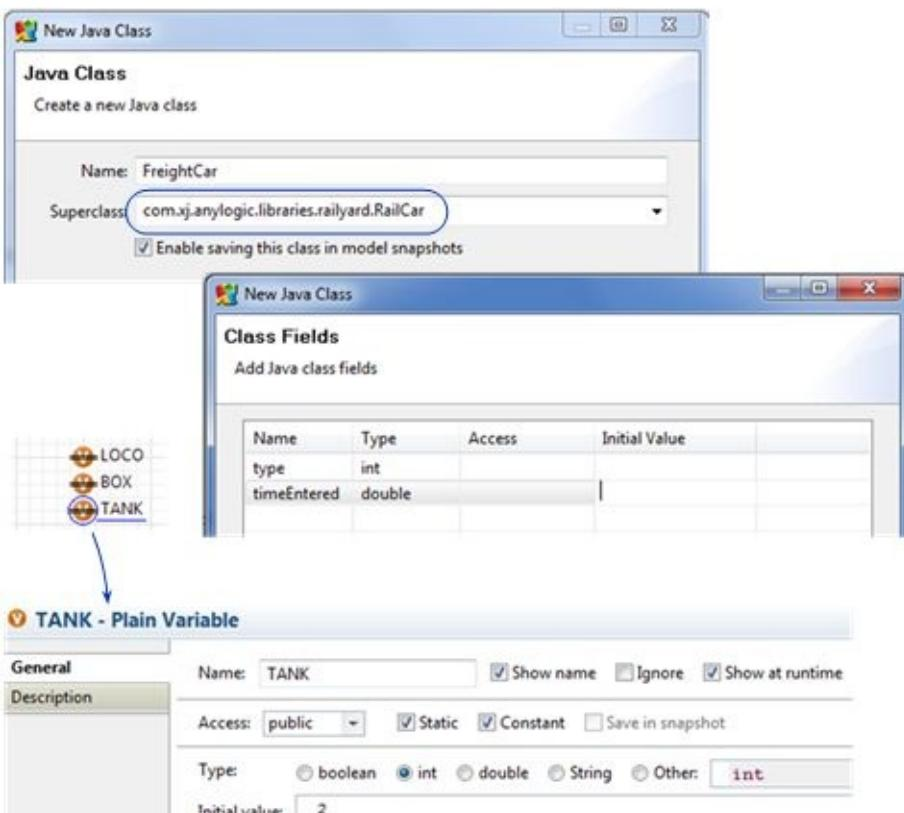

Figure 9.17 A custom class for rail cars and three constants for three car types
4. Add two fields: *type* of type *int* and *timeEntered* of type *double* (see Figure 9.17). Press